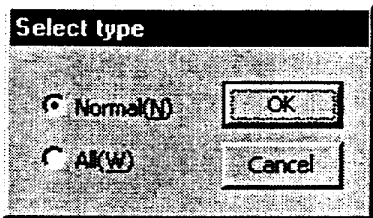

Figure 7.44 "Select type" dialog box
Click "Upload (U)" in the "Index TypeB Menu" to display the "Select type" dialog box (see Figure 7.44).